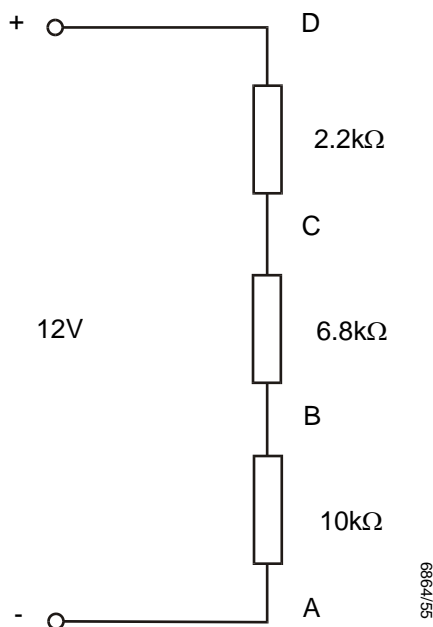

Fig. 15
f. Construct the circuit as shown at fig. 15 above. Switch the power supply on and measure the voltage at points B, C and D with respect to point A. Comment on your results.